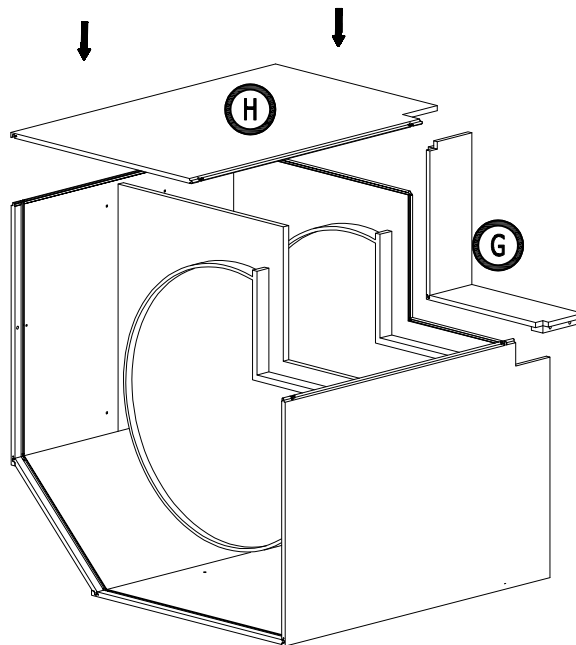

Figure 7
7. Install the right side panel, toe kick: Insert the right side panel (B), Toe kick (G) into the groove of the back panel (D), bottom panel (F) and Toe kick (E). Press down until they click into place (Figure7)